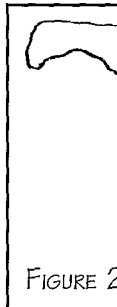

FIGURE 2
- Changing “A” and/or “D” affects how the jack lines up with the knuckle – see Figures 2 and 3.
dimension. I always check, however, the relationship the jack has to the knuckle (see Figures 2 and 3; the correct relationship is shown in Figure 3) and the height of the capstan when adjusted for the proper blow distance (see two paragraphs back for further explanation). Though there are additional checks one could use, both of these simple, visual inspections are possible indicators of parts incompatibility and/or action rail position problems. Be advised that inspecting the spread measurement alone (distance between action centers on hammer and wippen rails) is not a conclusive check. Also very critical are the height of the action rails relative to the keyframe and one another and their "tilt;" these can be off and yet the spread measurement appears to be just fine. All of this serves to confound attempts to analyze action problems thoroughly, and the more I try to familiarize myself with the intricacies of action modification, the more I realize how complicated it really is. This has led me to be very cautious about making changes related to a piano's action geometry, and I have become much more inclined to look for simple, visual alignments to guide me in parts selection and action analysis rather than resort quickly to action or part modification.
So, once again, what about our Steinway, serial number 384544? When trying to fit shanks with the long "A" dimension, I found the relationship between the jack and the knuckle was like that shown in Figure 2. The short "A" dimension shank looked much better in this area, and my other visual checks also looked okay. So we hung a set of hammers on these shanks, did all the requisite shaping, spacing, regulation, and voicing, and came up with a piano that came to be known as the "tendinitis B." To put it mildly, it had so